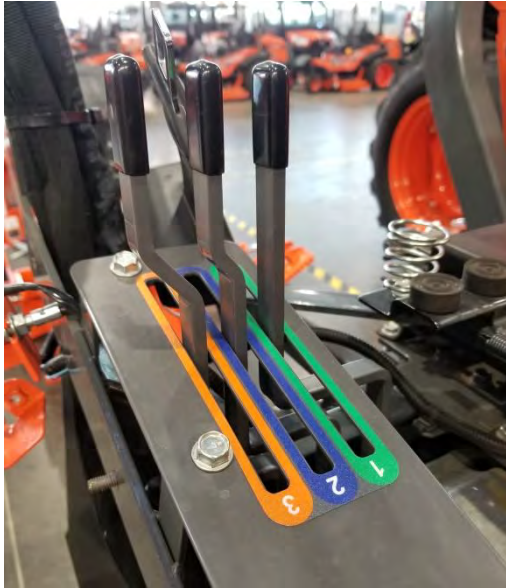

Figure 8: Lever guide in place with levers
- The lever guide will need to be loosely installed onto the levers during the process of sliding the valves into place. The lever guide label should also be installed at this time. (Fig. 8)